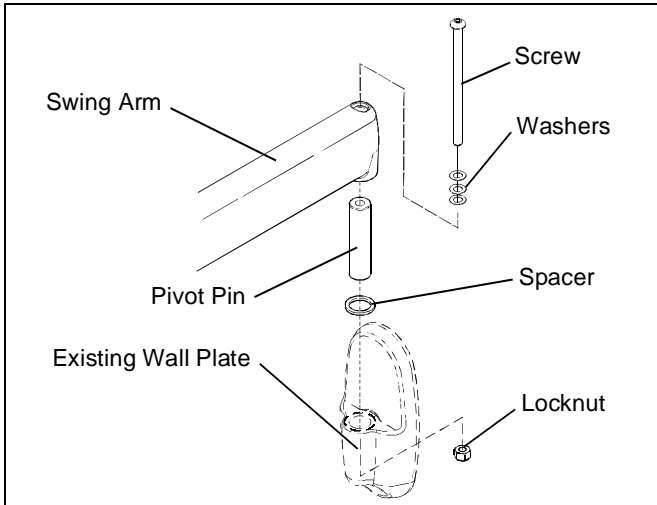

Figure 2
4. Remove mount wall plate from swing arm assembly by removing screw, washers and spacers, pivot pin and locknut. (See Figure 2)